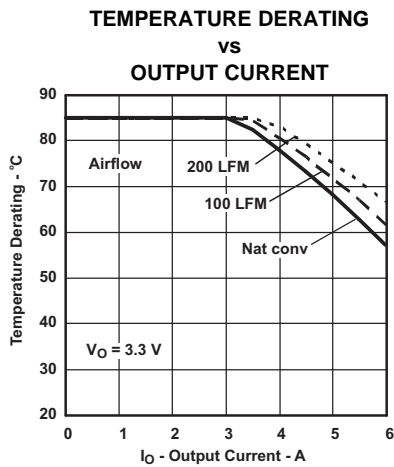
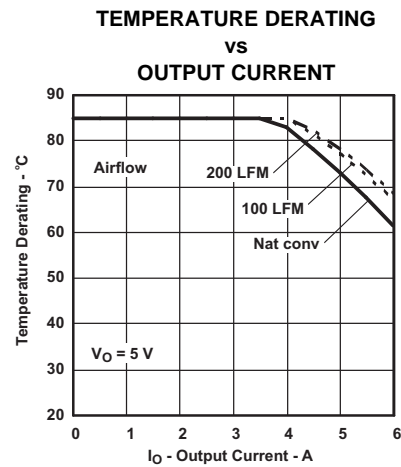

Figure 4.
Figure 5.
- (2) The temperature derating curves represent the conditions at which internal components are at or below the manufacturer's maximum operating temperatures. Derating limits apply to modules soldered directly to a 100 mm x 100 mm double-sided PCB with 2 oz. copper. For surface mount packages (AS and AZ suffix), multiple vias (plated through holes) are required to add thermal paths around the power pins. Please refer to the mechanical specification for more information. Applies to Figure 4 and Figure 5.